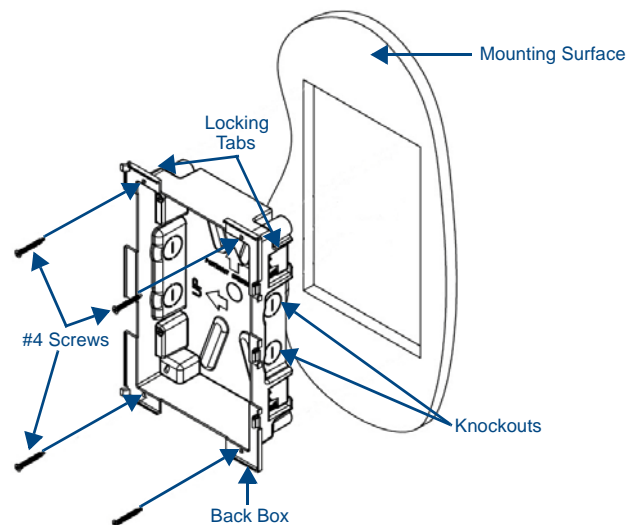

FIG. 4 MXD-1000 Back Box Installation (Portrait)
The back box (FIG. 4) is designed to attach the panel to most standard wall and solid surface materials. This back box has four locking tabs (two on top and two on bottom) to help lock the back box to the wall. These locking tabs are only extended AFTER the back box is inserted into the wall. Using the locking tabs is highly recommended for standard mounting surfaces such as walls. For thin walls and solid surfaces, use #4 mounting screws (not included).
2. Remove the back box knockouts (FIG. 4) and thread the incoming wiring through the knockout holes. To facilitate installation, thread the Ethernet cable through a bottom